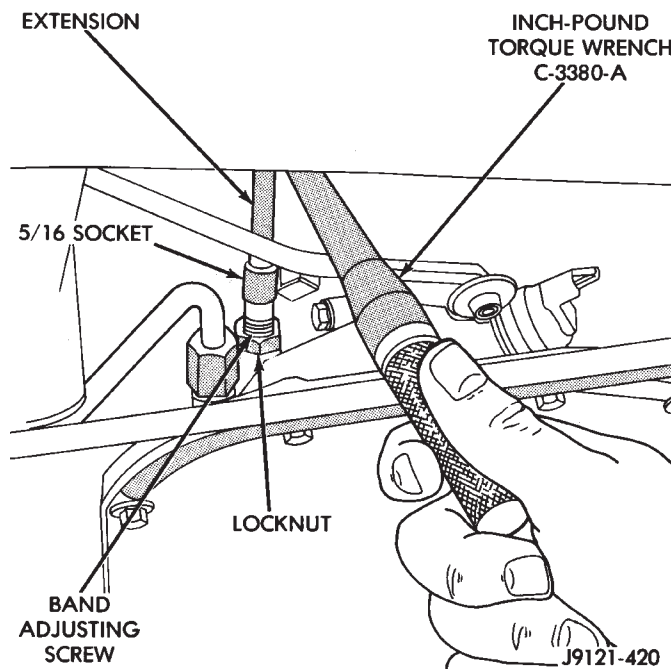

Fig. 7 Front Band Adjustment
(1) Raise vehicle.
(2) Loosen band adjusting screw locknut. Then back locknut off 4-5 turns. Be sure adjusting screw turns freely in case. Lubricate screw threads if necessary.
(3) Tighten band adjusting screw to 8 N•m (72 in. lbs.) torque with inch pound Torque Wrench C-3380-A, a 3-in. extension and 5/16 socket (Fig. 7).